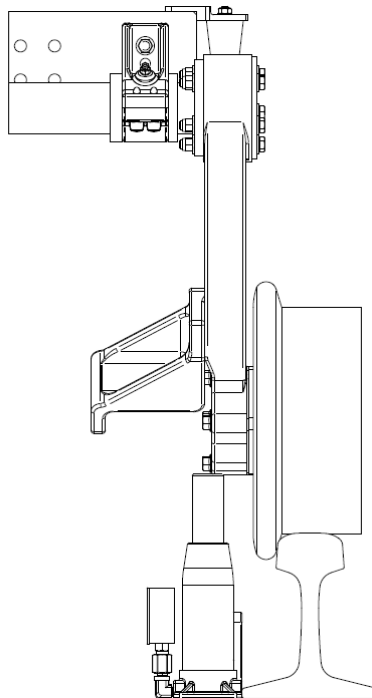

Figure 2-4
3. See Figure 2-4. Place the wheel weighing jack (CO-105) under the guide wheel arm directly below the wheel spindle. Jack the guide wheel up until the guide wheel just clears the top of the rail. Note the gauge reading. The gauge reading indicates the pounds of load on the guide wheel.